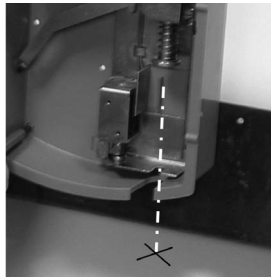

Fig 2.4
- Mark the position on the ceiling tile directly below where the Sentry 500 Refill Canister will locate (fig 2.4) and carefully make a neat hole just small enough for the threaded part of your chosen ceiling nozzle to pass through.